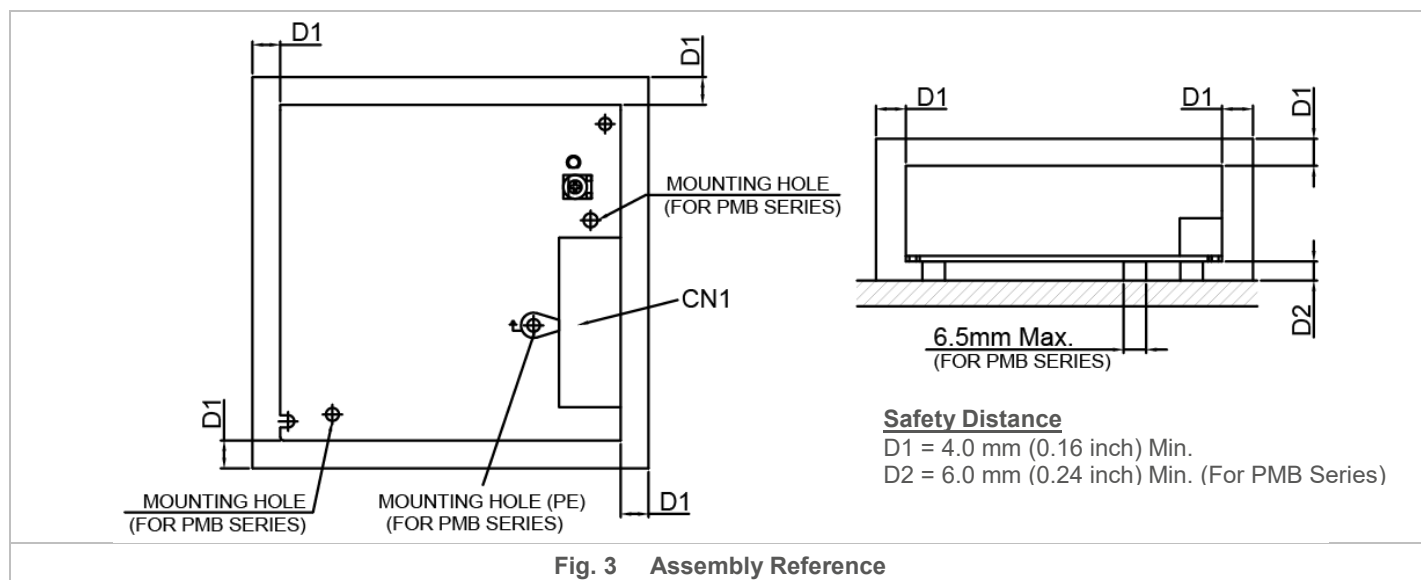

Fig. 3 Assembly Reference
- PM□-24V50W1AA□ / PM□-24V50W1AG:** Use flexible cable (stranded or solid) of AWG No. 22-12. User should calculate and select the suitable wire specification (type/quantity/diameter) according to actual output current. The torque at the Connector shall not exceed 13 Kgf.cm (11.23 lbf.in). The insulation stripping length should not exceed 0.275" or 7 mm (Refer to Fig. 3).
- **For PMB Series: (Refer to Fig. 3):** The mounting holes on any mounting accessories for the device should be kept at a diameter of  $< 6.5$  mm (0.26 inch). This is to ensure sufficient safety distance between the mounting screw and the components around the mounting holes on the PCBA. Therefore, the diameter of the mounting screw should be kept at  $< 6.5$  mm (0.26 inch).